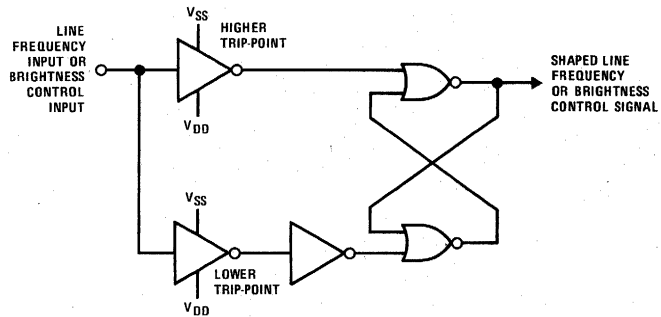

FIGURE 2. 60 Hz (or 50 Hz) Input (or Brightness Control Input) Shaping Circuit
**Line Frequency Input (pin 12):** A shaping circuit is provided to square the 60 Hz (MM5370) or 50 Hz (MM5371) input. This circuit allows use of a sinewave input. The Schmitt Trigger shaper (*Figure 2*) is designed to provide approximately 6V of hysteresis. A simple RC filter, such as shown in *Figure 8*, should be used to remove possible line-voltage transients that could cause the clock to gain time or damage the device. The shaper output drives a counter chain which performs the time-keeping function. A prescale counter divides the line input frequency to obtain a 1 pps timebase.
**Brightness Control Input (pin 15):** Since display brightness is a function of cathode segment current, a capability of interrupting this current for a variable percentage of the digit interval results in a brightness control. Connecting this Schmitt Trigger input (see *Figure 2*) to  $V_{DD}$  places all cathode segment drive voltages at the high level, thereby inhibiting the display. Conversely,  $V_{SS}$  applied to this input enables the cathode segment drives. The Schmitt Trigger shaper provides approximately 1V of hysteresis, which facilitates using a waveform such as a sawtooth with a variable slope (or variable dc component) to effect the shaper output duty cycle and, therefore, the display brightness. The control waveform should be derived from the multiplex frequency; a circuit is included in *Figure 8*.